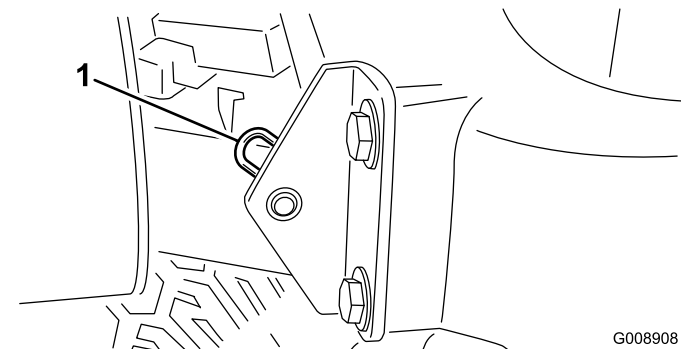

Figure 40
2. Remove the hairpin cotter securing the hood pivot to the mounting brackets (Figure 40).